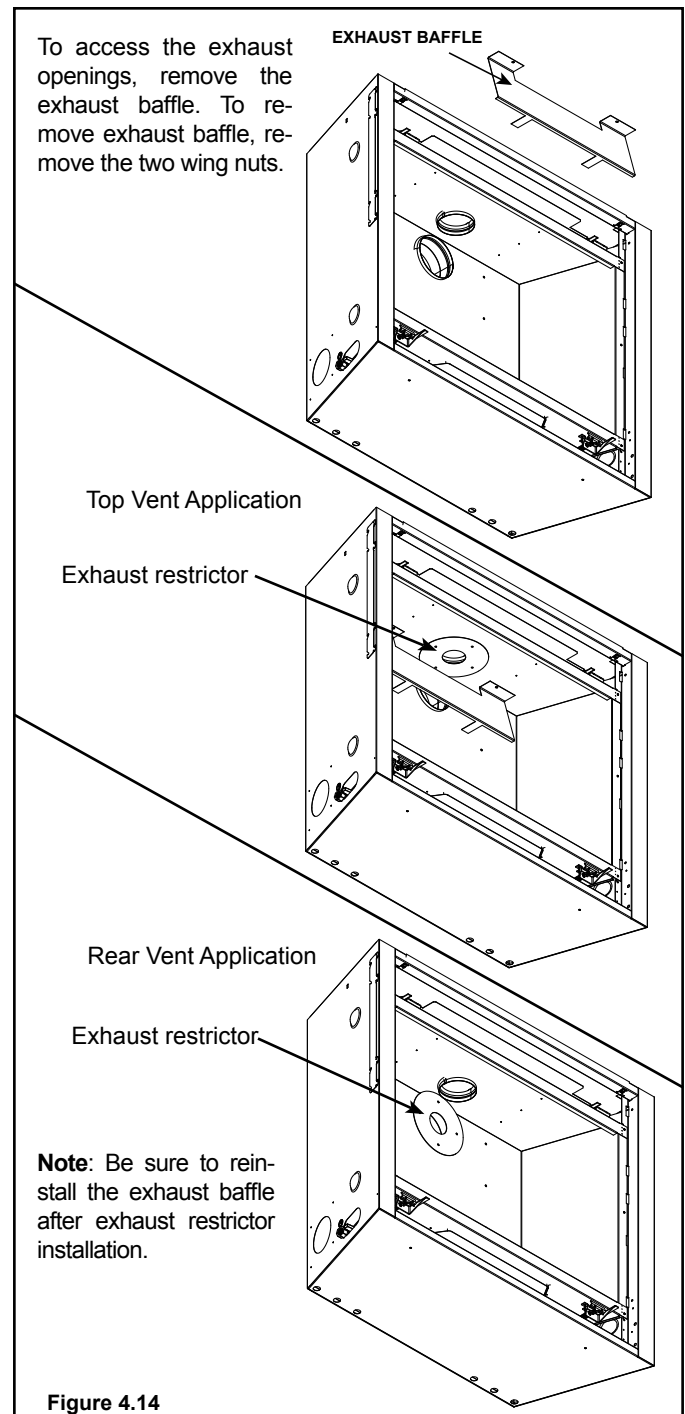

Figure 4.14
1. Install the exhaust restrictor over the center of the exhaust outlet in the firebox. See Figure 4.14.